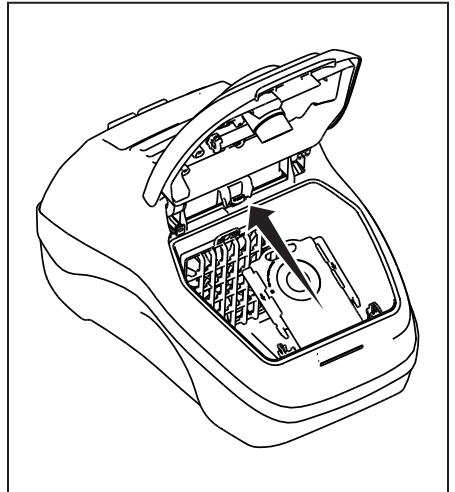

Fig. 2
- Open the bag compartment lid (Fig. 2).